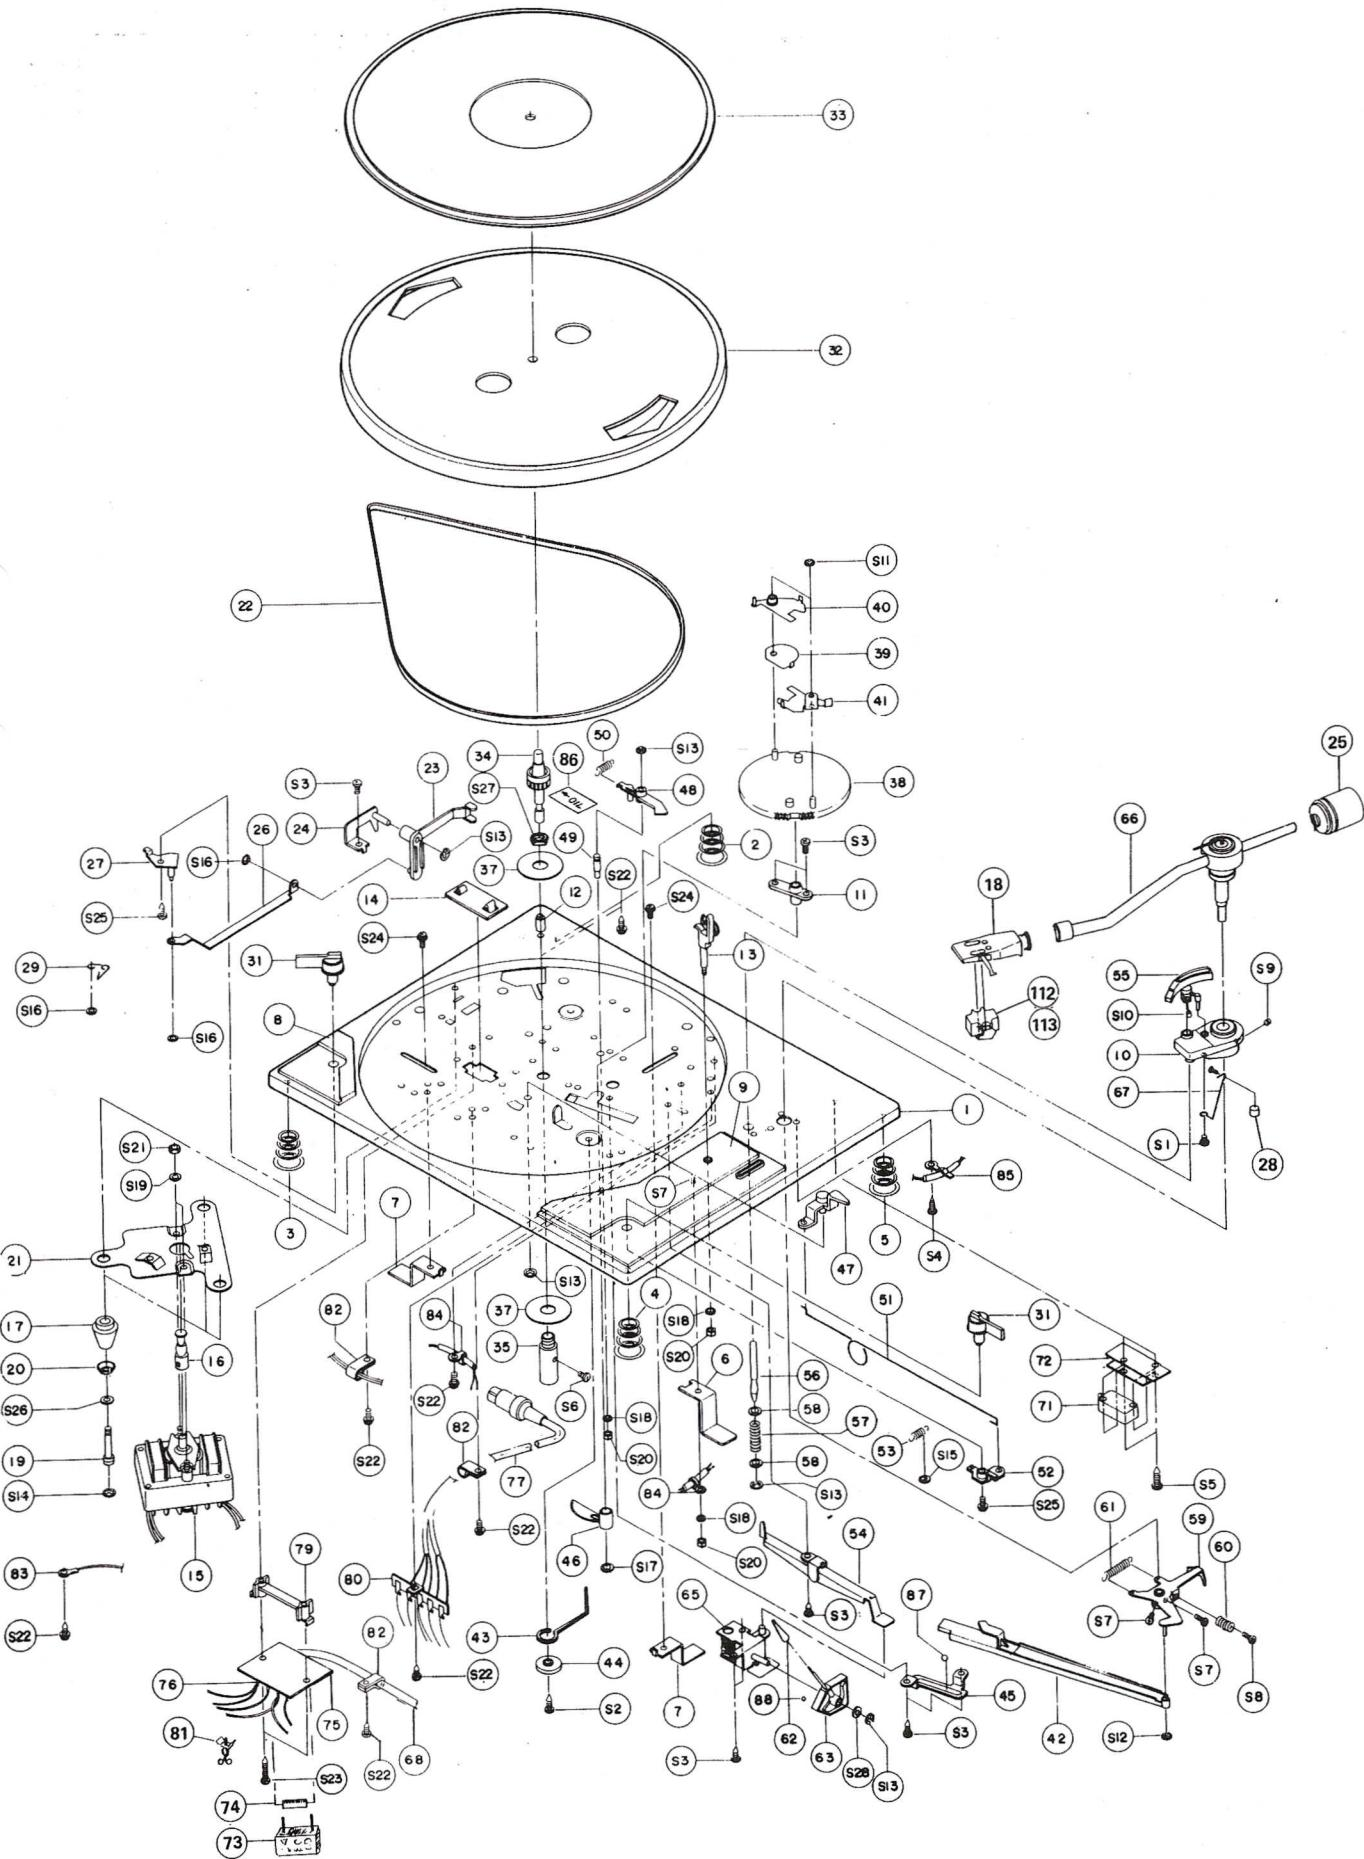

Fig.11. Mekaniske deler
5.1 Mekaniske deler, ref. fig. 11
Mechanical parts, ref. fig. 11